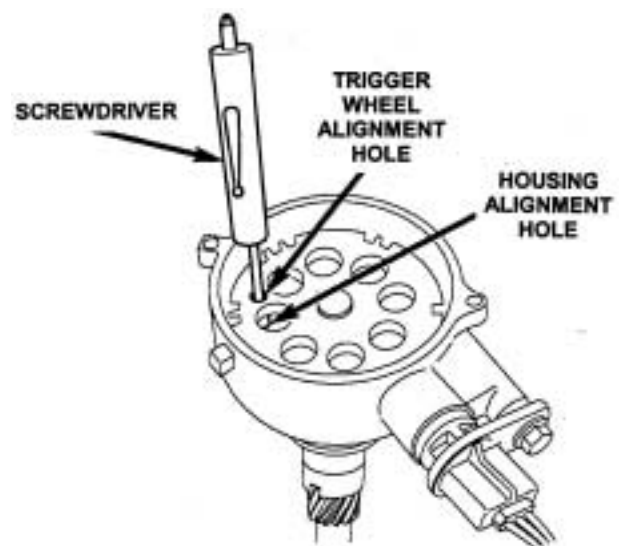

Figure 26
- l. Temporarily install a small screwdriver or similar tool through the trigger wheel access hole and then through the mating hole in the housing (Figure 26).
94. Remove the screwdriver from the housing alignment hole and trigger wheel (Figure 26).